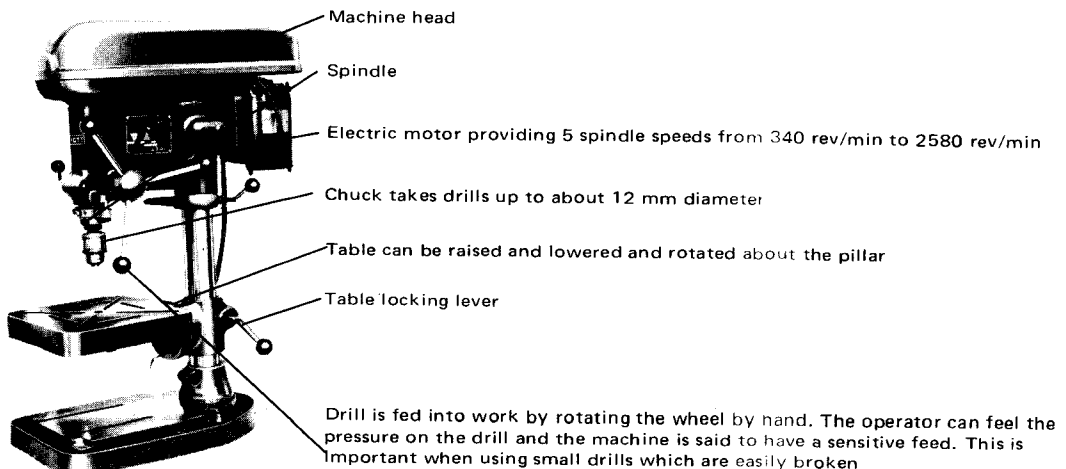

Fig. 4.81 Bench drilling machine
**Drilling machines.** Two types as shown in Figs 4.81 and 4.82 are commonly used. The bench machine is so called because it is small enough to stand on a bench.